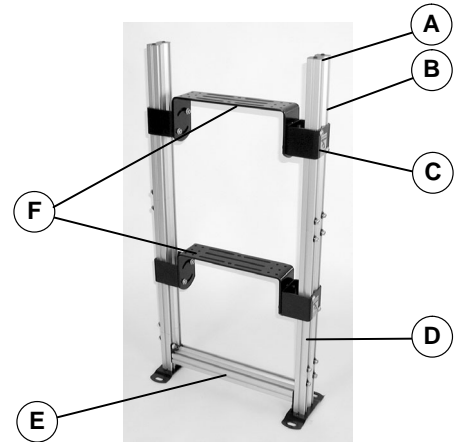

Figure 1
Refer to Figure 1 for typical stand components.
* When raised to its maximum height, top of conveyor mounting bracket (F of Figure 1) is at the same height as top of stand leg (D) (base tier) or tier leg (B) (upper tier).